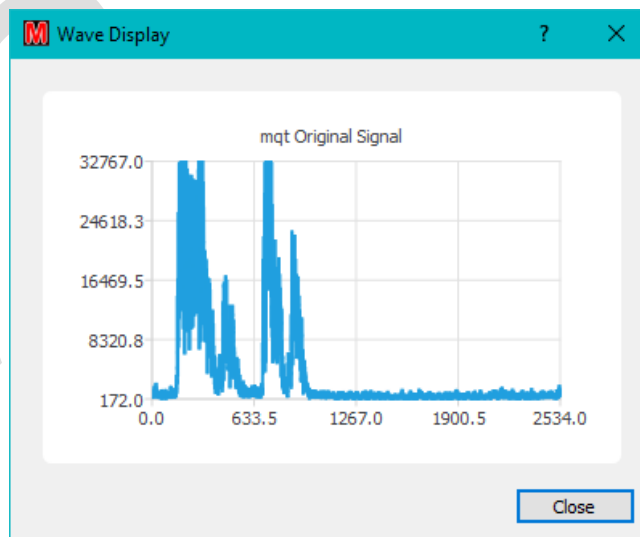

Figure 132 –Output displayed by the SHOW button
- “**Show**” provides a spectrum display of the recorded message (Figure 132)